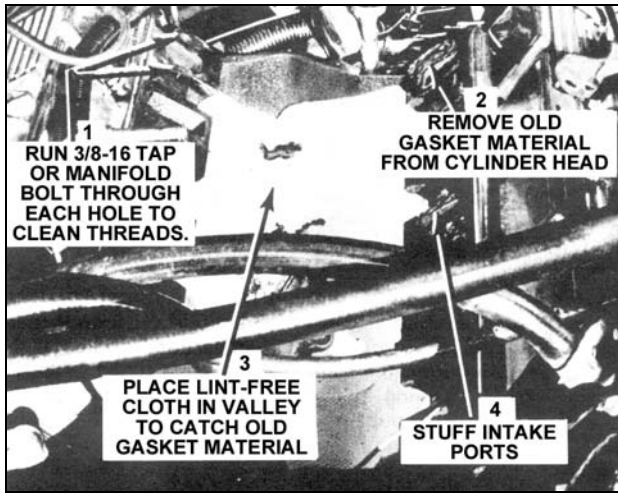

Figure 1
17. Clean the old gaskets from the cylinder head and block surfaces. (Before cleaning, stuff intake ports in the head with paper towels or rags and lay clean, **lint-free** rags in valley or take equal precaution to prevent scrapings from entering cylinder head ports and engine). See Figure 1.
18. It is advisable to run a 3/8-16 tap in each manifold bolt hole in each cylinder head to clean the holes to assure even manifold sealing. If a tap is not available, run a manifold bolt through each hole before installing the manifold. Carefully remove port stuffing and valley rags assuring that no dirt or foreign material has entered the engine. See Figure 1.